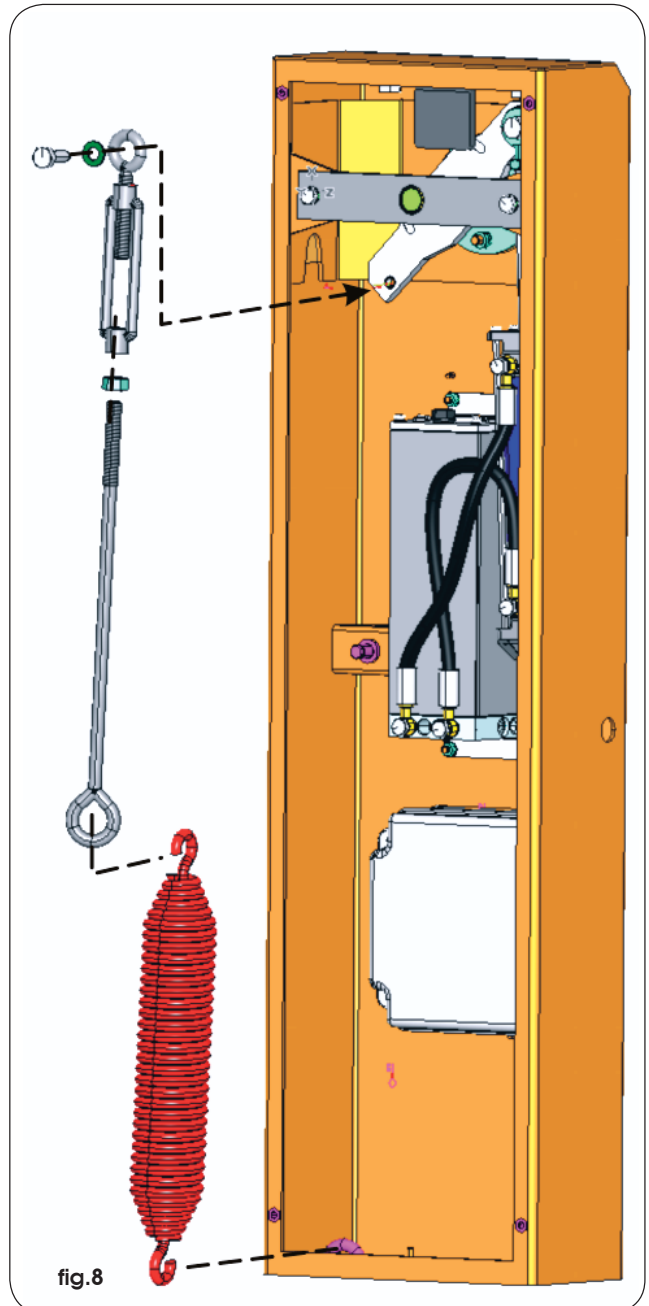

fig.8
- 2) While keeping the beam in vertical position, assemble the tie rod and spring as shown in fig.8